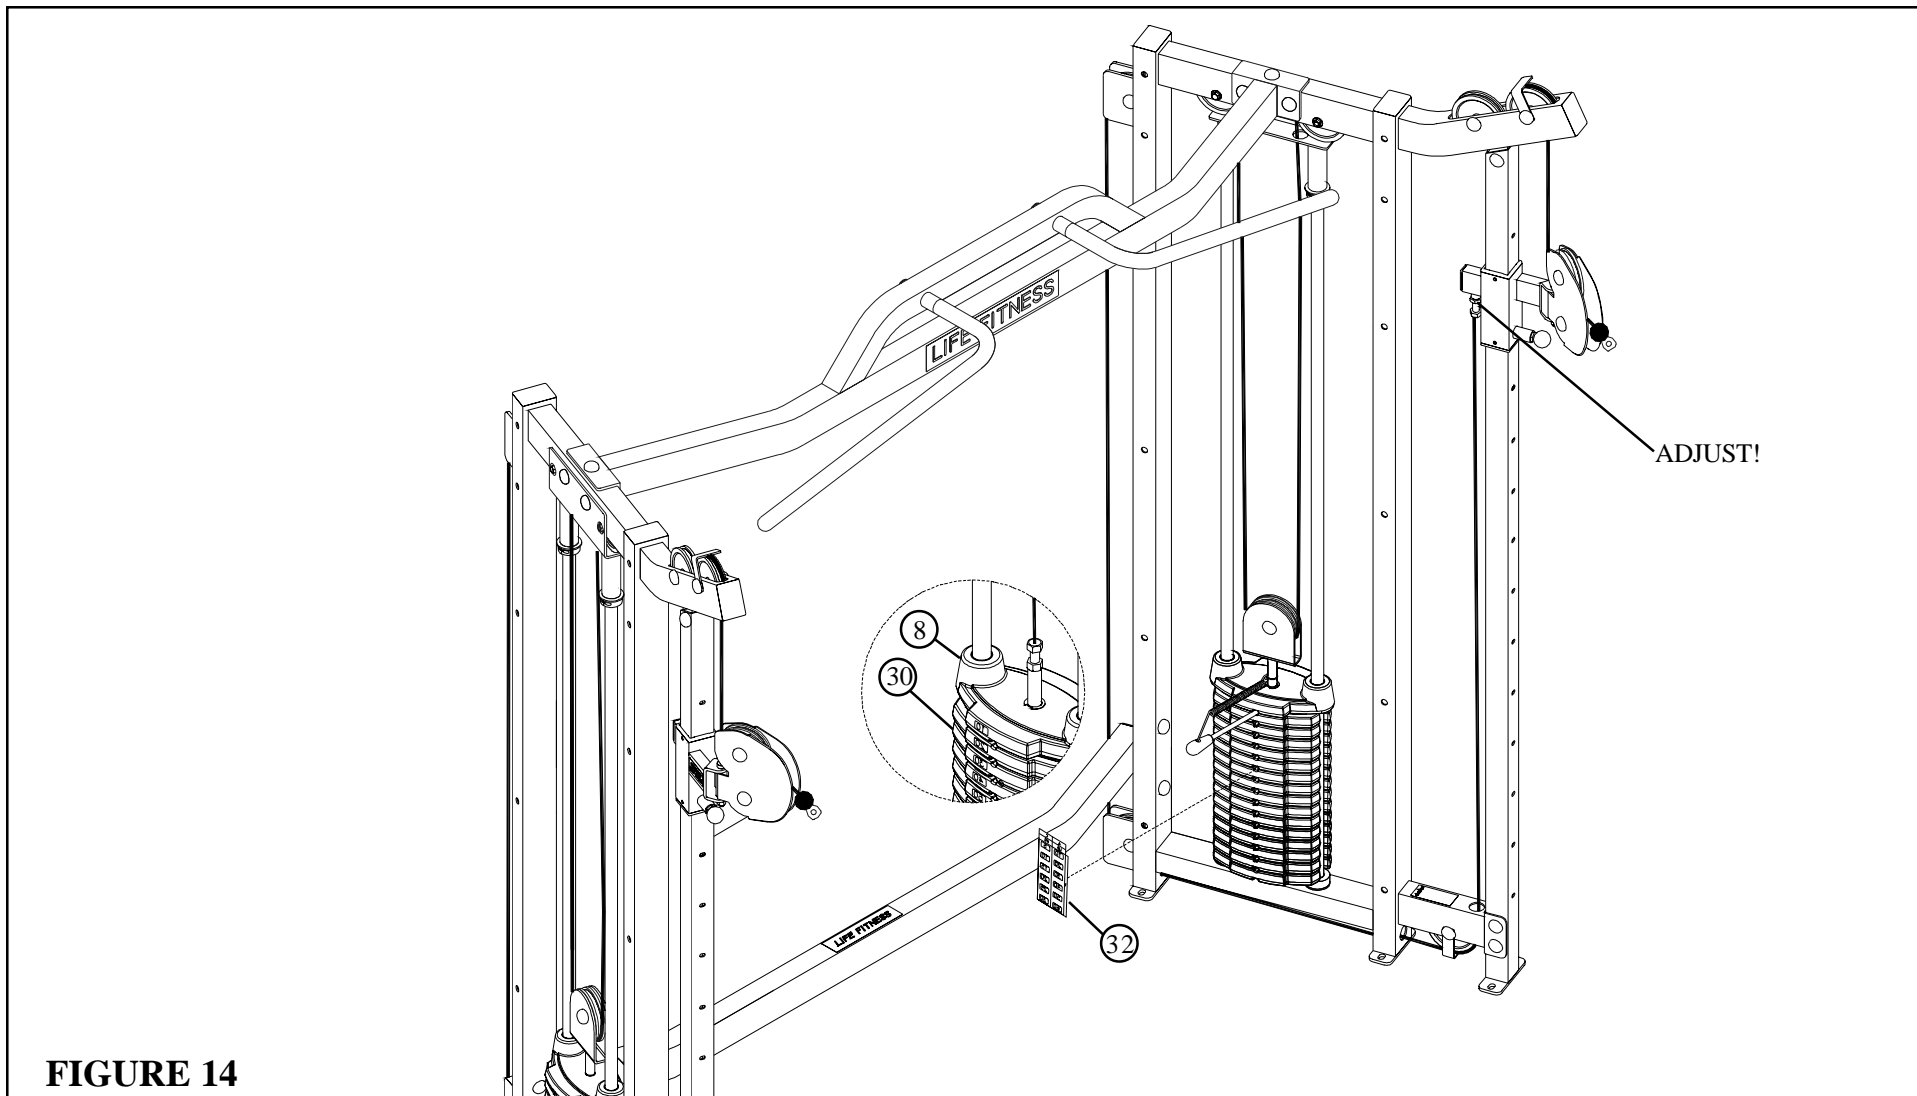

FIGURE 14
- Peel the backing off the WEIGHT STACK LABELS (32), line up sheet to the right of the selector opening and apply labels to the WEIGHT PLATES (30), starting with the HEAD PLATE (8) as shown in FIGURE 14. (NOTE: The WEIGHT STACK LABEL sheet (32) includes labels for both lbs. and kgs. for both the standard and optional weight stacks.)
- Insert the WEIGHT STACK PIN into the WEIGHT STACK as shown in FIGURE 14.
- If the HEAD PLATE (8) does not sit on top of the first WEIGHT PLATE (30), push the head plate down, insert the WEIGHT STACK PIN and perform several repetitions on the machine. This will relax the cable system and prevent the HEAD PLATE (8) from lifting up.
- If after completing previous step the HEAD PLATE (8) still does not sit on top of the first WEIGHT PLATE (30) or if there is excess slack in the cable system, adjust the threaded end of the CABLE going into the SWIVEL PULLEYS (6 & 7) accordingly and retighten the jam nut.